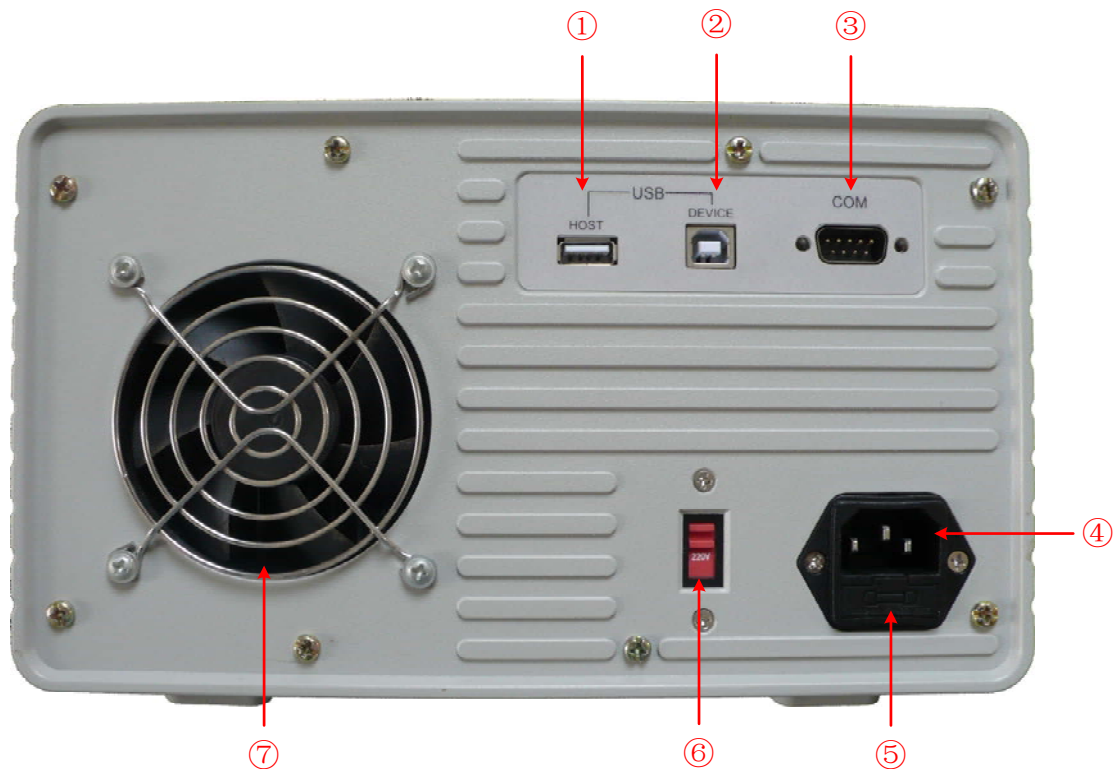

Figure 4-2 Rear panel overview
APS-5333 adopt 110V/220V AC power source. Users should regulate the voltage scale of the **Power Switch** according to the standards in their own country (see Figure 4-2) at the rear panel and use an appropriate fuse.
- (1) Turn off the power button at the front panel and remove the power cord.
- (2) Check if the fuse installed before leaving factory (250 V, F3 A) can match with the selected voltage scale; if not, pry the cover open using a straight screwdriver (see ⑤ in Figure 4-2), change the fuse.
- (3) Regulate the **Power Switch** to the right voltage scale.